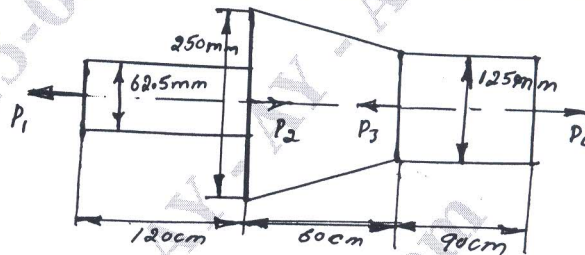

Fig.Q1(b)
b. A member ABCD is subjected to point loads  $P_1$ ,  $P_2$ ,  $P_3$  and  $P_4$  as shown in Fig.Q1(b).